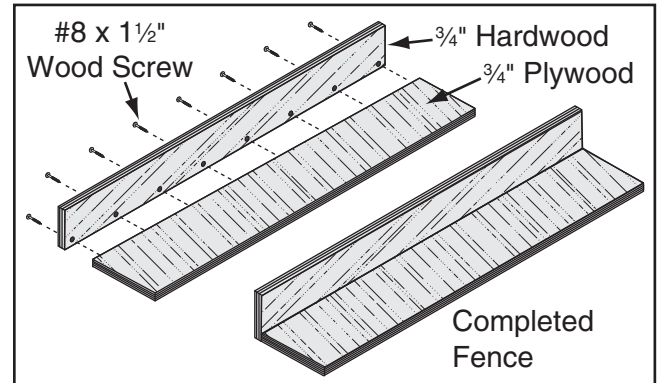

Figure 118. Location of pilot holes.
2. Pre-drill and countersink eight pilot holes $\frac{3}{8}$ " from the bottom of the 3" wide board, then secure the boards together with eight #8 x $1\frac{1}{2}$ " wood screws, as shown in **Figure 118**.